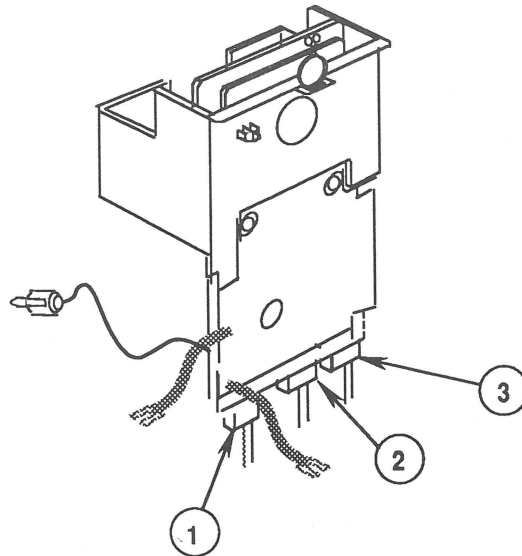

FIGURE 32
- **D** connector, the 5-wire connector from the main deflection board (Figure 32, #1)
- **T** connector, the 4-wire (2-pin) connector from the main deflection board (Figure 32, #2) (this connector is not tabbed and is OK to install either way)
- **O** connector, the 4-wire connector from the video board (Figure 32, #3)